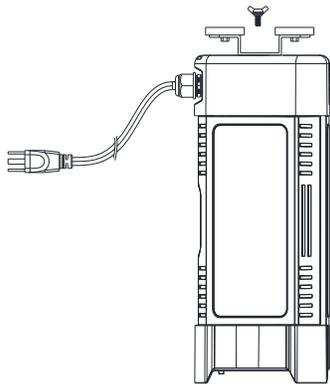
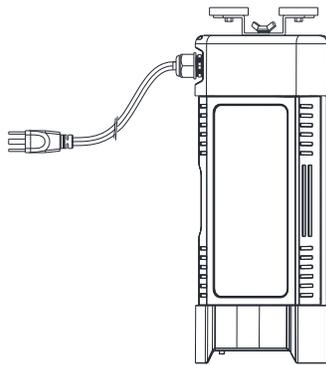

Figure 9
Figure 10
1. Tighten the magnet bracket on the lamp base with butterfly screw. (Figure 9)(Figure10).